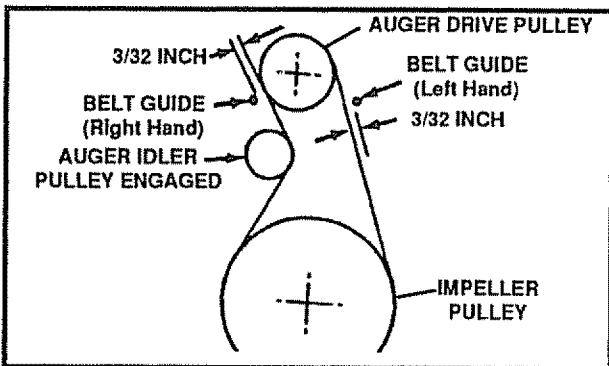

FIG. 29
- Measure the distance between the belt guides and the belt (See Fig. 29). The distance should be $3/32$ " for each guide.